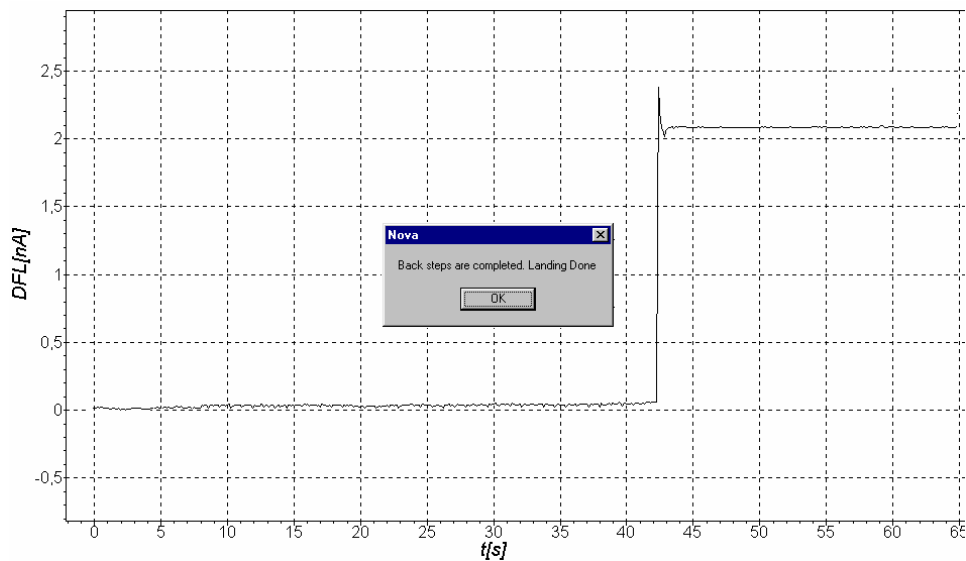

Fig. 3-10
- The increase of **DFL** signal to the value of **Set Point** parameter is represented on **DFL (t)** dependence on the oscilloscope (Fig. 3-10);
- The oscilloscope displays an «OK» message box (Fig. 3-10).